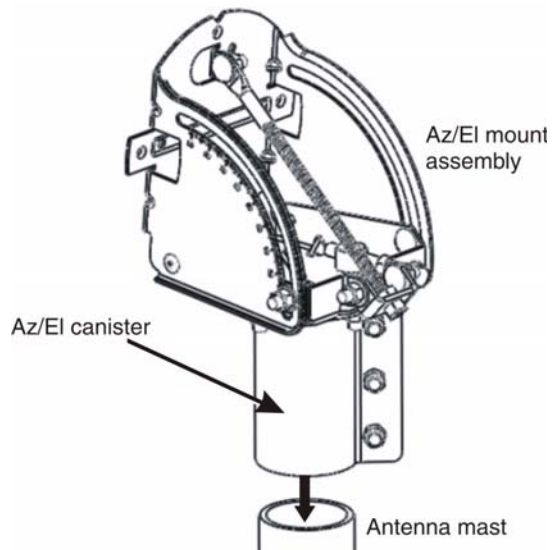

Figure 27: Installing the az/el mount assembly
- Slide the az/el canister of the mount assembly down onto the mast as shown in Figure 27.